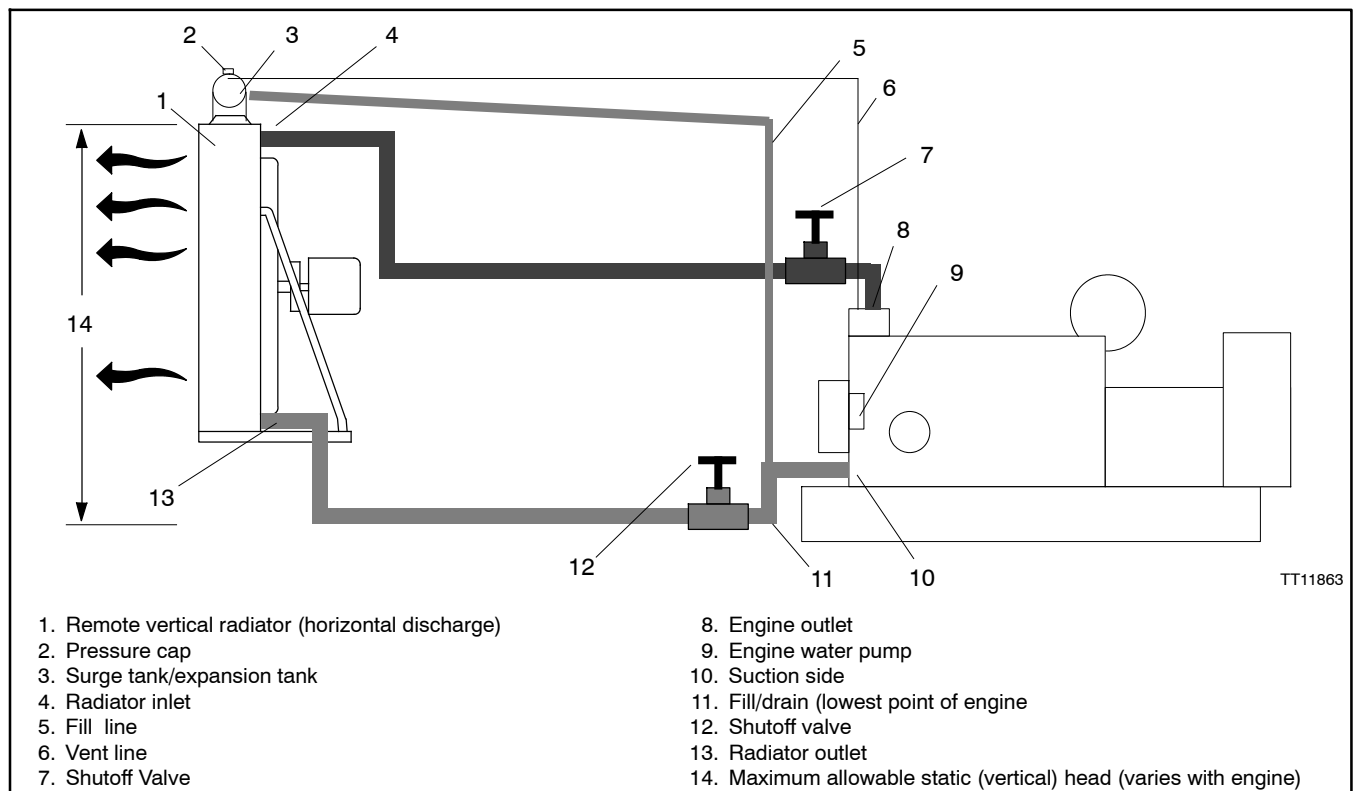
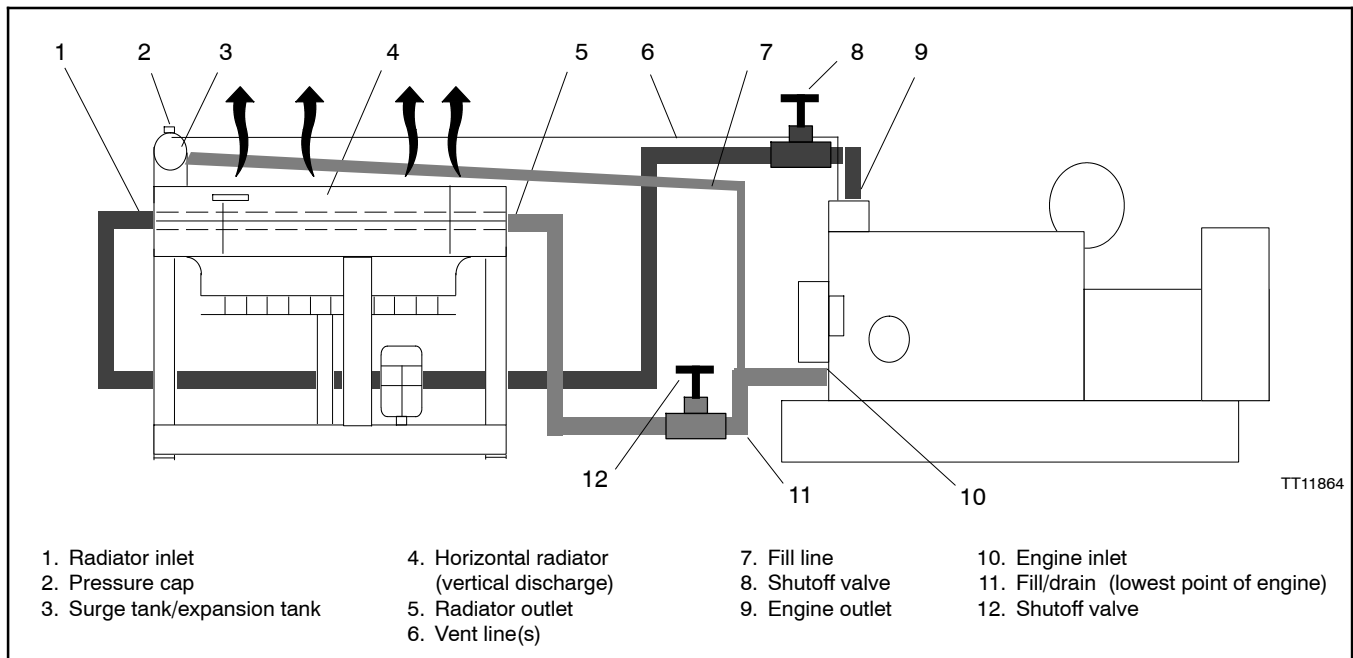

Figure 4-7 Remote Vertical Radiator (Horizontal Discharge) System
Figure 4-8 Remote Horizontal Radiator (Vertical Discharge) System
System limitations. Cooling systems are limited by radiator cap ratings. The maximum radiator operating pressure is 138 kPa (20 psi) and the maximum operating temperature is 121°C (250°F). Radiators are available for vertical or horizontal discharge. See Figure 4-7 and Figure 4-8.
A horizontal discharge remote radiator requires the use of a surge (expansion) tank as shown in Figure 4-7. Locate the tank at the highest point in the cooling system. The surge tank provides venting, surge/expansion protection, and filling/makeup functions.
- Connect the main line from the surge tank to the highest point of the remote radiator. Most vertical core radiators have the surge tank as part of the radiator top tank. The setup illustrated in Figure 4-7 provides for radiator and engine deaeration and a positive pressure at the pump suction inlet.